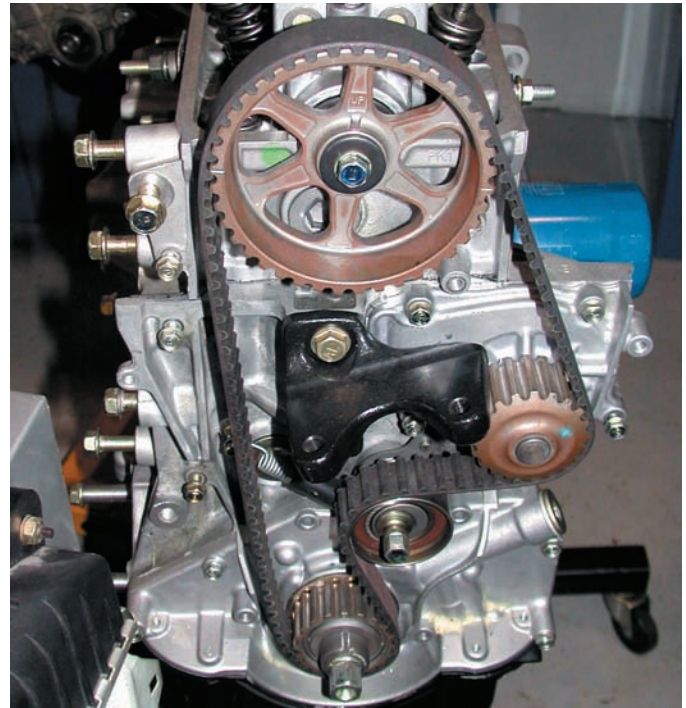

FIGURE 23-7 A single overhead camshaft engine with a timing belt that also rotates the water pump.
- STEP 3** If the timing belt is not broken, rotate the engine until the camshaft and crankshaft timing marks are aligned according to the specified marks. ● **SEE FIGURE 23-7.**